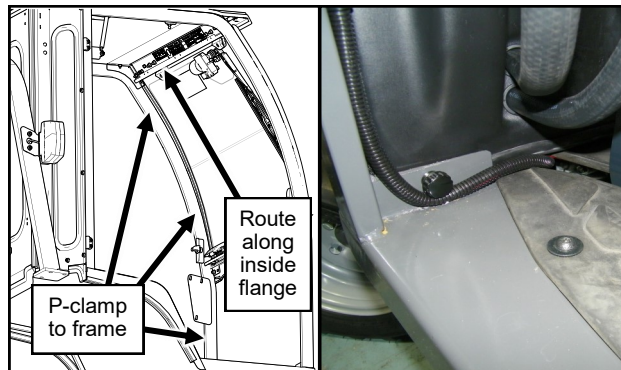

Fig. 15.3 (Wiper Wiring)
- 15.3 For best results, run the wires across the windshield support towards the left, down the inside of left front frame tube and attach the wires with self-drilling screws and P-clamps, prior to installing the radiator shroud. See Fig 15.3.